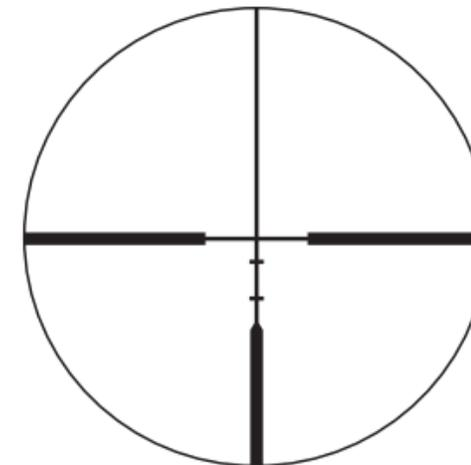
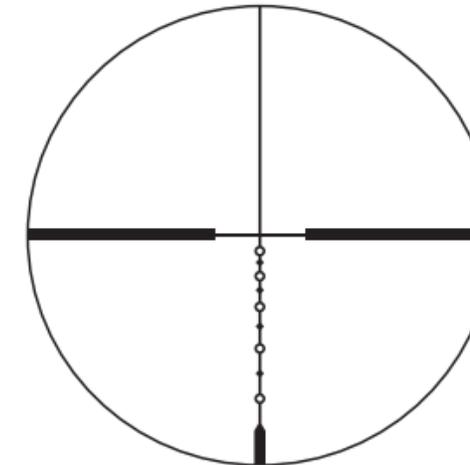

Fig. 3-1
Fig. 3-2
- 1 Look through the eyepiece with your eye positioned about 4 in (10 cm) away from the eyepiece to see either the BDC Carbine reticle (Fig. 3-1), or the BDC 600 reticle (Fig. 3-2), depending on your purchased product.